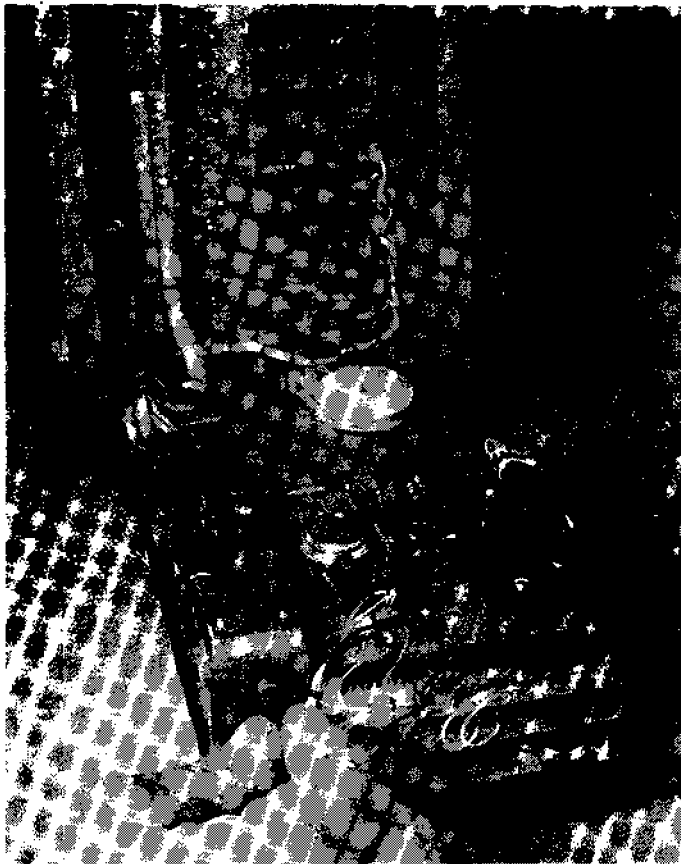

FIGURE 8
- (2) Set the clock to 5 secs (Figure 8).